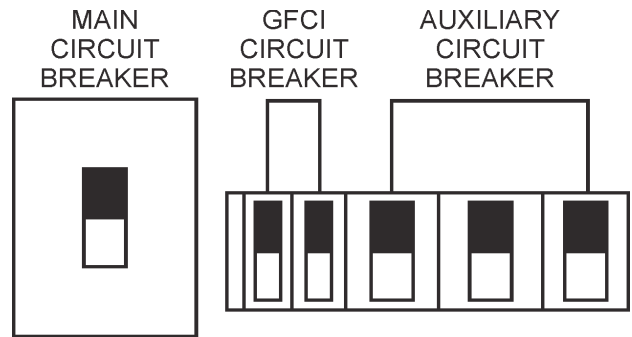

Figure 59. Main, AUX. and GFCI Circuit Breakers (ON)
17. Turn the **main**, **GFCI**, and **aux.** circuit breakers to the “ON” position (Figure 59).